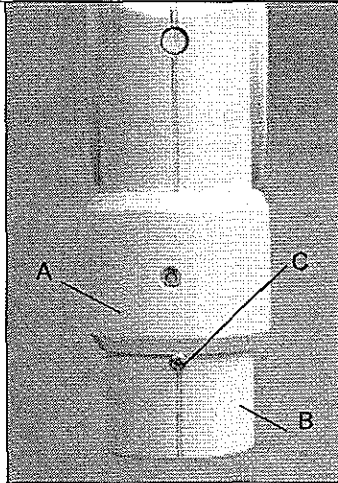

Figure 5-27c: Raised Collar
- b. Slide the collar upward and insert screw (C) into the unthreaded hole under the collar. Allow the collar to rest on the screw (see Figure 5-27c).